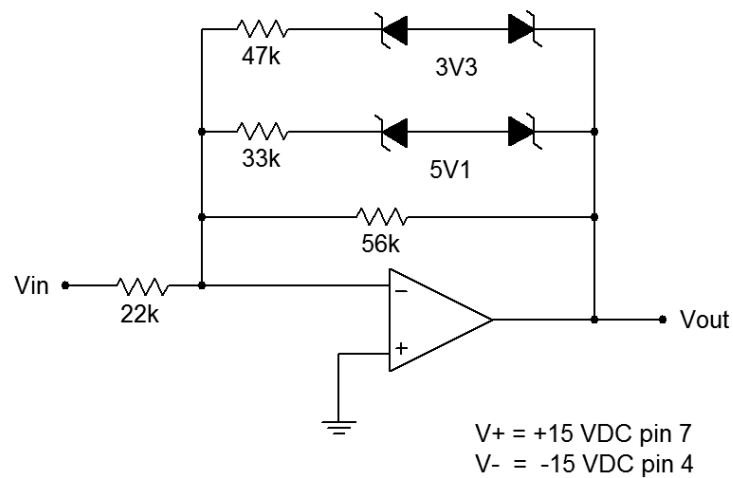

Figure 2
7. Calculate the break-points and slopes for the input/output transfer curve of the circuit in Figure 2. Record these values in Table 2.
8. Assemble the circuit of Figure 2.
11. Continuing with the circuit of Figure 2, estimate and then measure the results for each individual error presented in Table 3.
2. What happens in Figure 2 when the 33k  $\Omega$  and 47k  $\Omega$  are swapped?